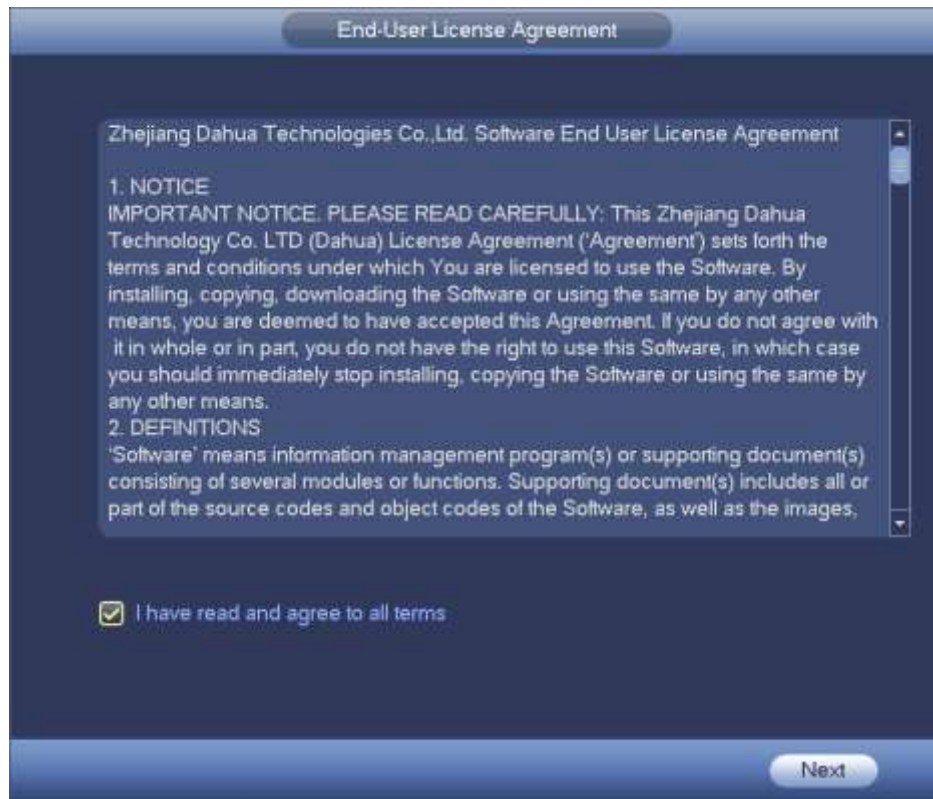
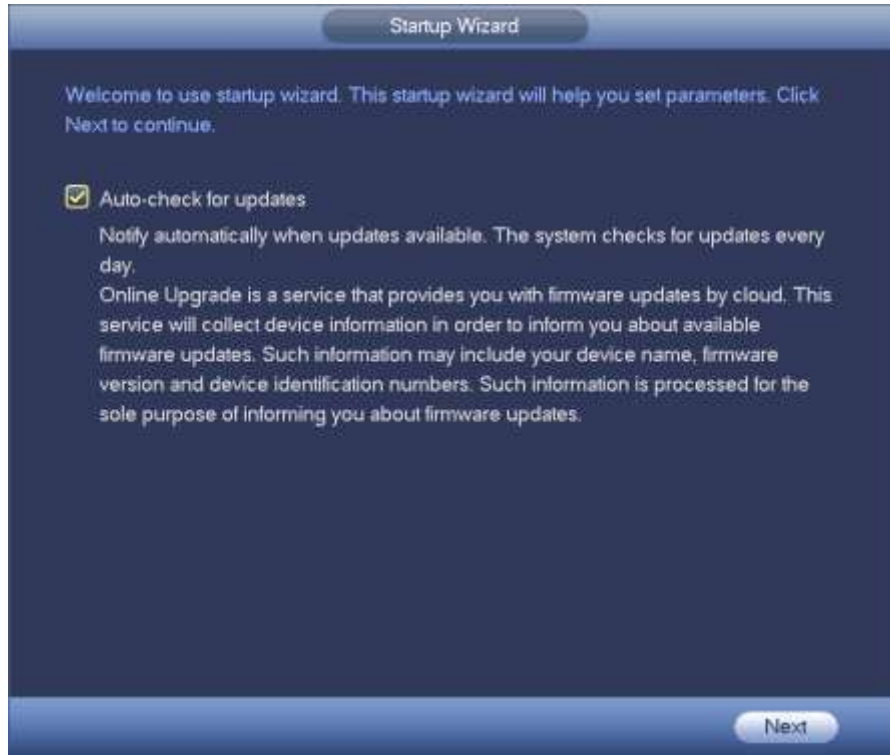

Figure 4-12
Figure 4-13
- Startup wizard: After initialize the device, system goes to the End-User License Agreement (EULA) interface. See Figure 4-12. Check the box to agree the EULA. Click Next button to enter startup wizard if it is your first time to login. See Figure 4-13.